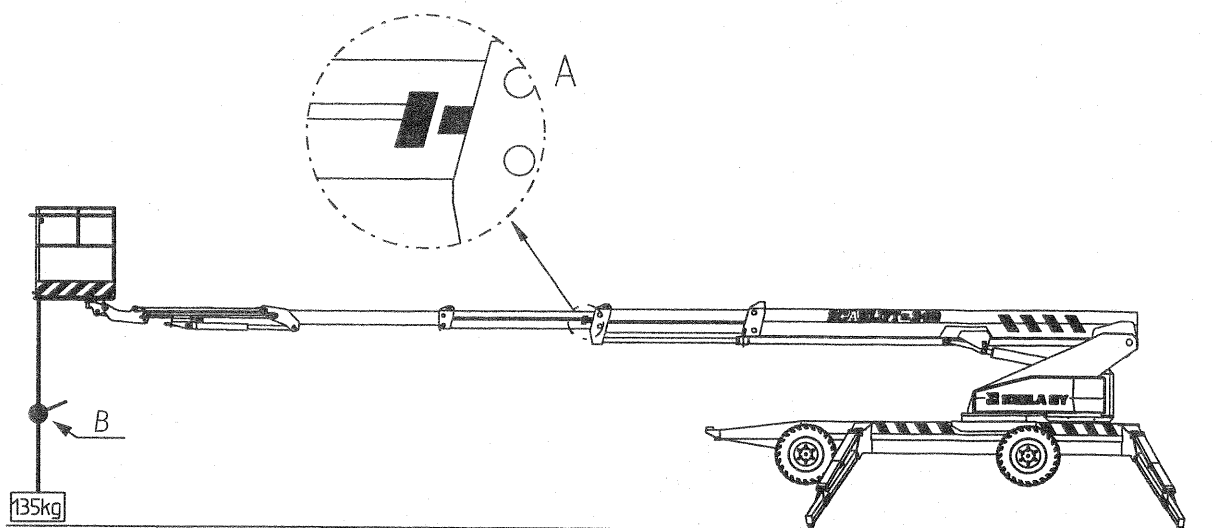

Figure 35-1
3. Extend the telescope with the telescope out push-button in a continuous movement until the movement stops. The movement has to stop when the middle painted mark on the booms becomes visible (point A figure 35-1).
4. Attach a wire tackle (B, figure 35-1) to the lug under the edge of the platform.